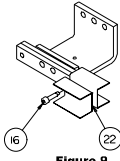

Figure 9
10. Reference fig. 9 - Installing the provision barrier (item 22). In the case of a provision, orient the barriers as shown in fig. 9. Insert the 1/4-20 socket-head cap-screw through the 0.228" hole in the barrier and through the 0.228" hole in the B-phase link and tighten. Repeat this step if there is another provision.